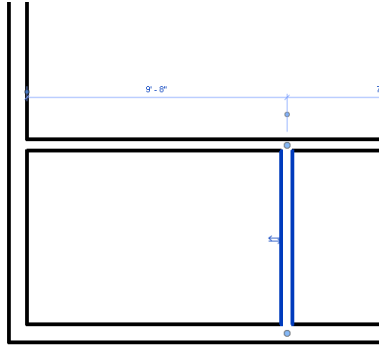

Figure 3-63 The square dot moved
2. Click on the dot on the extreme left; the dot and the dimension witness line move to the interior face of the exterior wall, as shown in Figure 3-63.